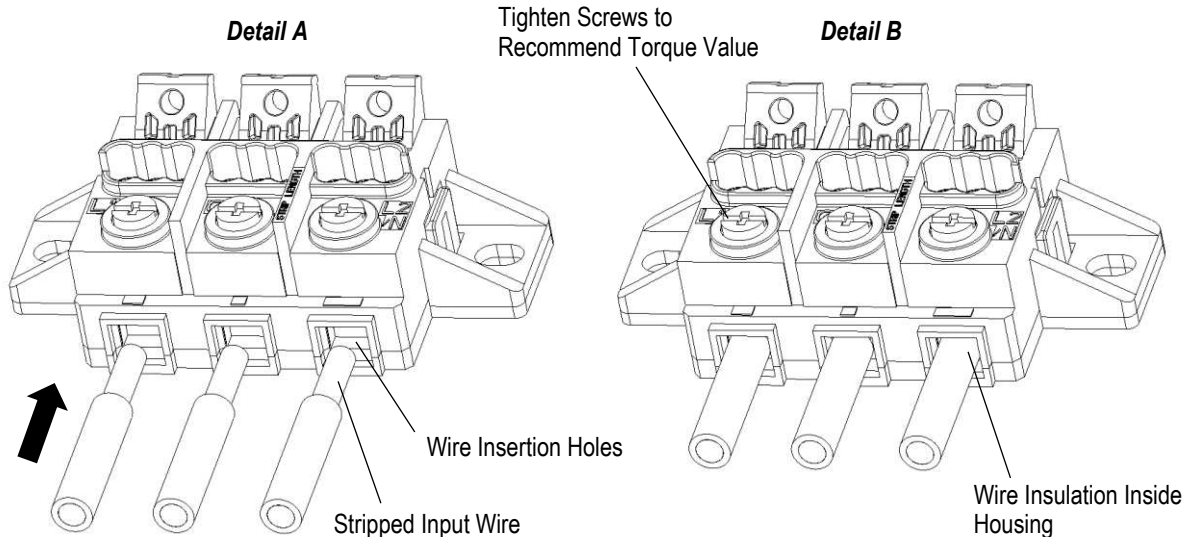

Figure 6
- B. Insert the stripped wire into the wire opening, as shown in Figure 6, Detail A.